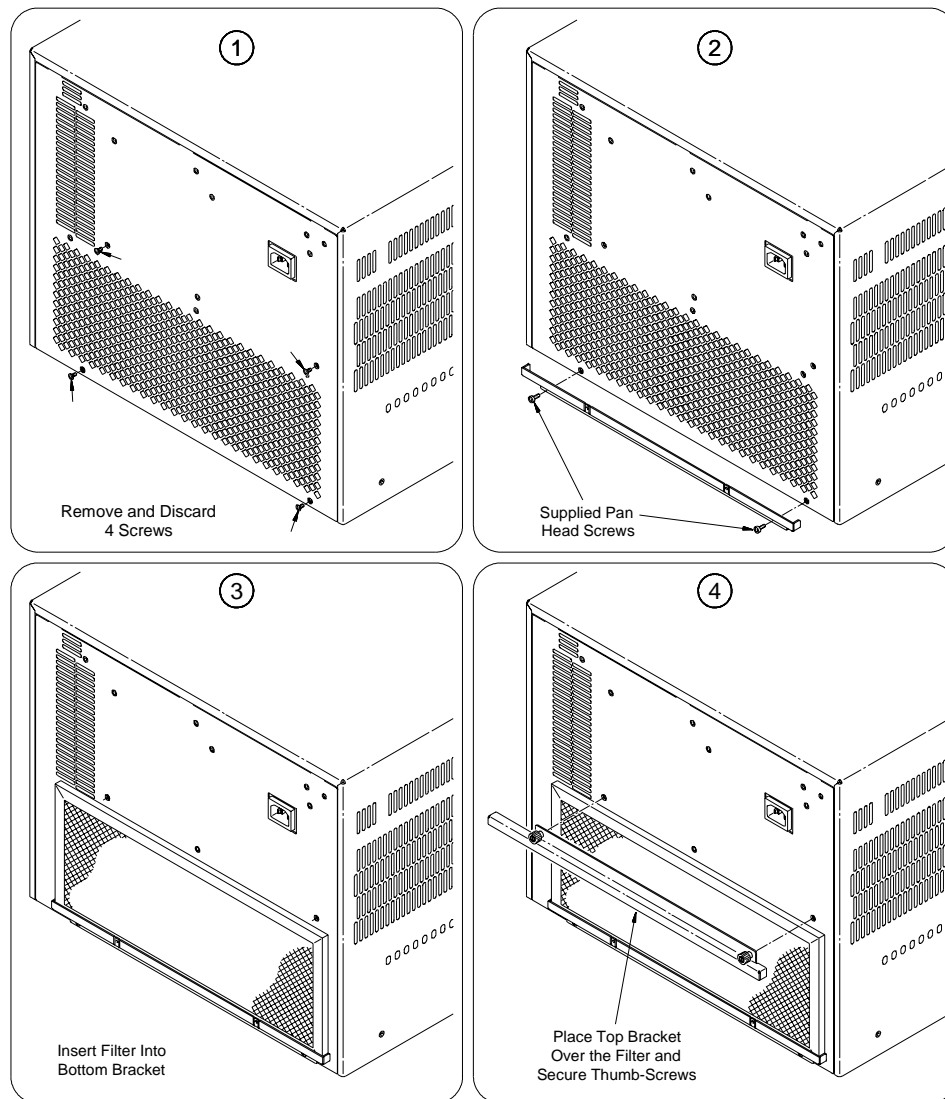

Figure 2-15. Installing the Optional Air Filter Kit
An optional air filter kit can be purchased for the HP E840xA mainframe. Figure 2-15 shows how to install the kit.
1. Remove the four screws from the rear panel as shown in Figure 2-15.